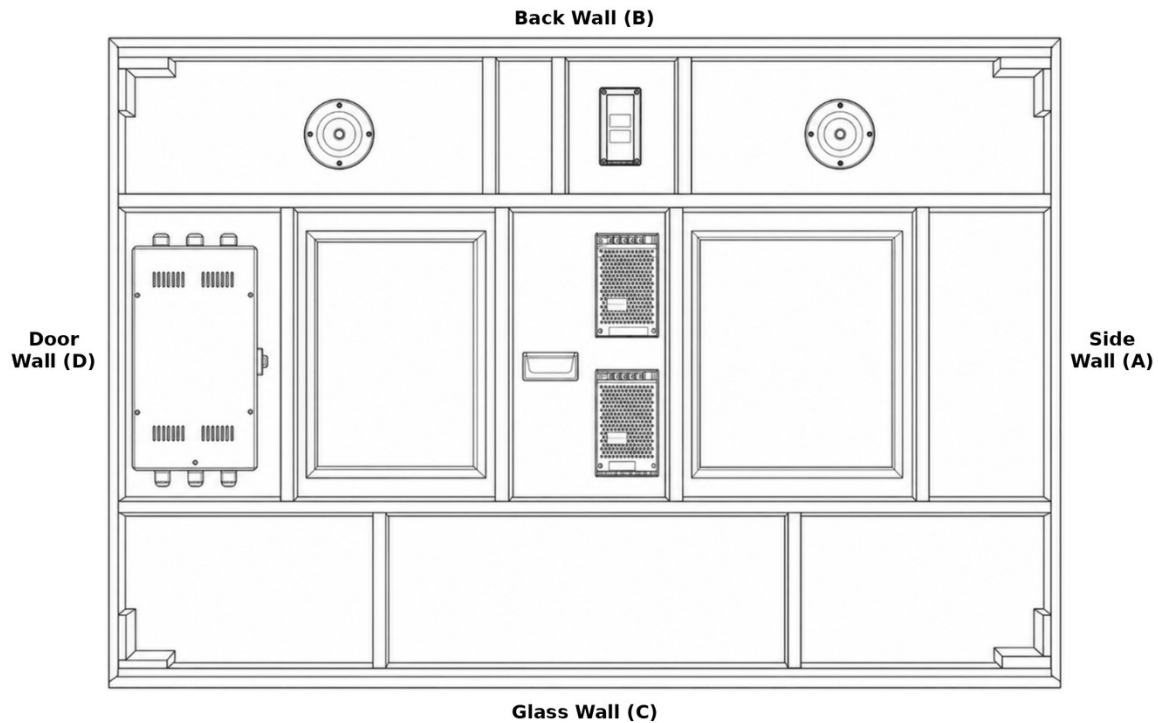

Figure 12. Ceiling panel orientation, viewed from above with the wire side up.
- Orient the ceiling panel with the wire side facing up, the power cord notch and the long black power cable toward the Back Wall (B), and the black control box toward the Door Wall (D). Compare the panel with the orientation diagram (Figure 12) before lifting it.